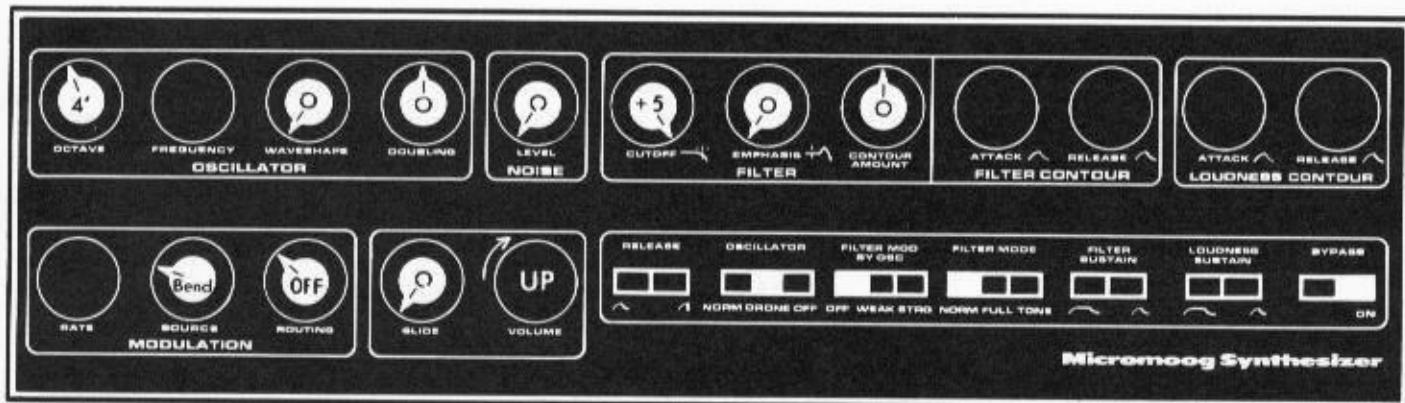

FIGURE 5-1 SOUND CHAIN CHECK
<p>B. No Sound. Power Light on. ± 15V supplies working.</p>	<p>Set controls according to Figure 5-1. Signal trace the following points to locate faulty circuit.</p> <ol style="list-style-type: none"> 1. Q402 Gate 1 to see if the oscillator (VCO) is running. If running: <ol style="list-style-type: none"> a. Roll NOISE control knob up and down. If noise gets through to the output, then the fault lies in the waveshaper circuit. If noise does not get through: b. Check the filter (VCF) output at the emitter of Q513. No output here means that the filter is bad. If our sawtooth is here then: c. Check the output of the VCA at IC602B, pin 7. No signal here indicates trouble in the VCA. Otherwise the problem is in the VOLUME pot R612 or the harness wiring.
G. Oscillator Summing Network Fault.	1. IC301, CR303, Q307, Q308. 2. One of the summing resistors receiving wrong input. With controls set according to Figure 5-1, VO at P2, pin 3 should be within a few millivolts of -40 mV DC (IC301A, pin 1 should be roughly -2.0 volts DC). If VO is far off spec., then check input ends of R302, 330, 331, 339, 343, 371 and 372. You may short each one of these resistors to ground to help locate the troublesome input.
I. VCF not passing signal. Reason undetermined.	Set controls according to Figure 5-1. 1. Insure that input signal of roughly 40 mV p-p appears at base of Q501.
<p>L. VCA not working.</p>	<ul style="list-style-type: none"> 1. Insure that IC601, pin 2 has 40 mV p-p signal. (See Figure 5-1.) If signal is here, VCA is at fault. 2. Possible defective parts: IC601, IC602, Q601, SW601.